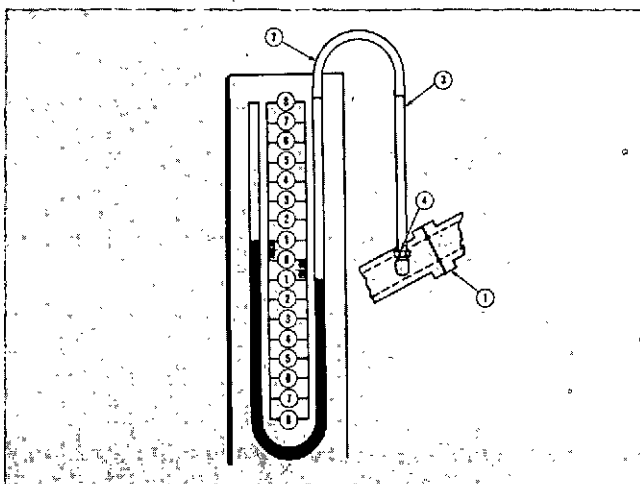

Fig. 11-2-1, V11101. Measuring back pressure
4. The point of measurement must be as close as possible to the manifold or turbocharger outlet flange (1, Fig. 11-2-1) in an area of uniform flow such as a straight section of pipe at least one pipe diameter from any changes in flow area or flow direction.